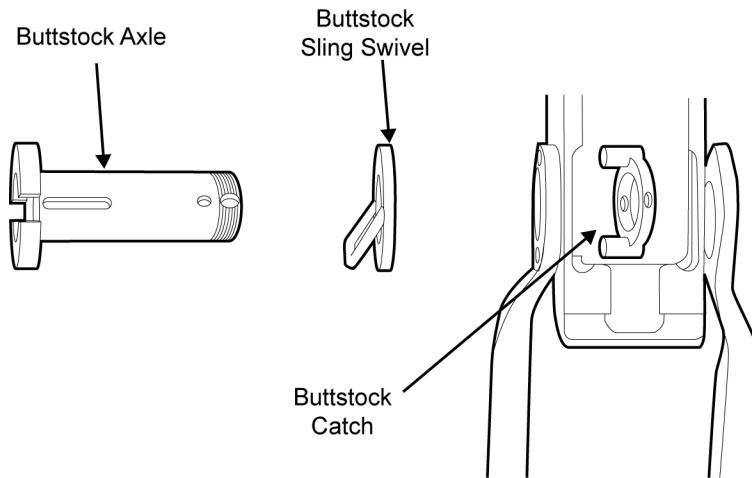

Figure 45. Installing the Buttstock Sling Swivel, Buttstock Axe, and Buttstock Catch.
b. From the left side of the receiver, thread the buttstock axle through the buttstock sling swivel, left buttstock arm, left side of the receiver, buttstock catch (inside the receiver with the arms facing left), right side of the receiver, and right buttstock arm. Refer to Figure 45.